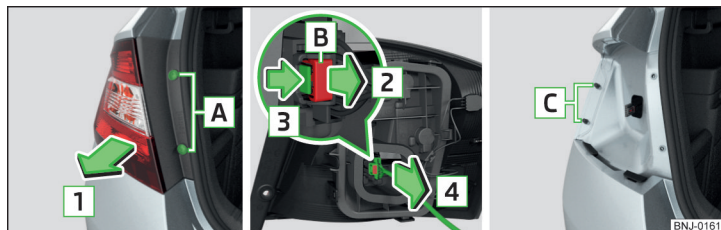
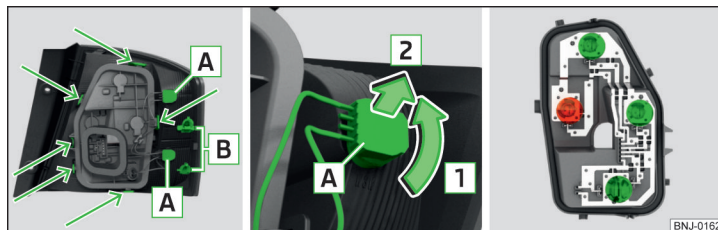

Fig. 195 Remove light / pull out connector
Fig. 196 Outer part of the lamp / removing the bulb / lamp holder
- Grasp the light and remove carefully in direction of arrow **1** » Fig. 195 from the pin **C**.
- Tighten the lock in the opposite direction to the arrow **2** » Fig. 195.
- Insert the lamp with the holes **B** » Fig. 196 on page 192 onto the pins **C** » Fig. 195 in the body.
- Turn the holder with the bulb **A** in the direction of the arrow **1** » Fig. 196.
- Turn the holders with the bulbs **A** in the direction of the arrow **1** » Fig. 196.
- Release the bulb holder in the areas identified by arrows » Fig. 196.